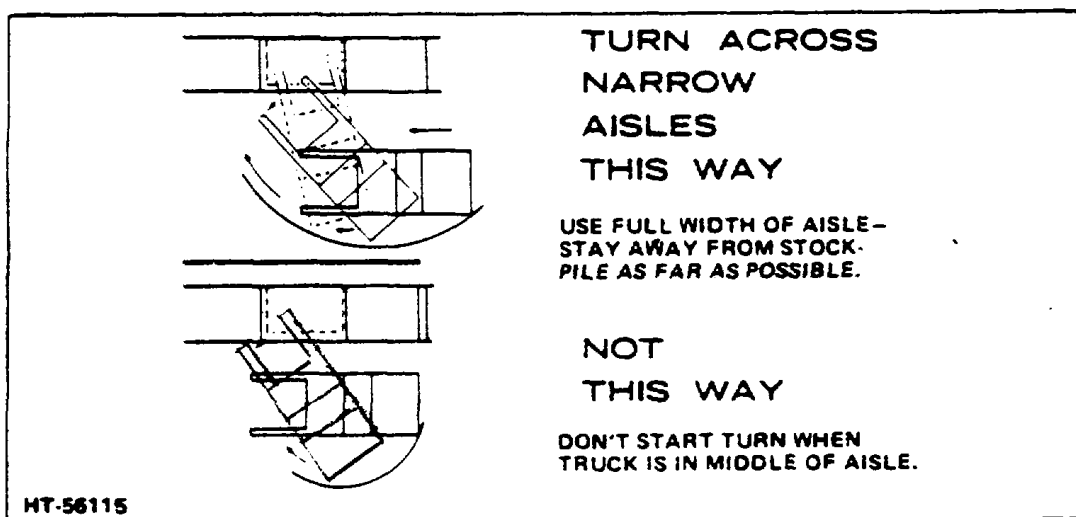

Figure 3-13. Aisle Turning Procedure
- (14) Take full advantage of operating space in narrow aisles (Fig 3-13). Stay as far away from the stockpile as possible but allow for rear-end swing.